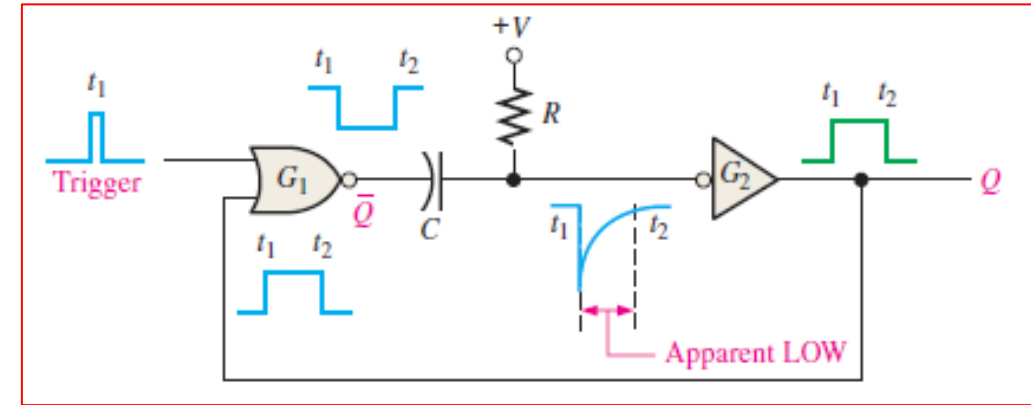

FIGURE 43 A simple one-shot circuit.
- Figure 43 shows a basic one-shot (monostable multivibrator) that is composed of a logic gate and an inverter. When a pulse is applied to the trigger input, the output of gate G_1 goes LOW. This HIGH-to-LOW transition is coupled through the capacitor to the input of inverter G_2 .
- To summarize, the output of inverter G2 goes HIGH in response to the trigger input. It remains HIGH for a time set by the RC time constant. At the end of this time, it goes LOW. A single narrow trigger pulse produces a single output pulse whose time duration is controlled by the RC time constant. This operation is illustrated in Figure 43.